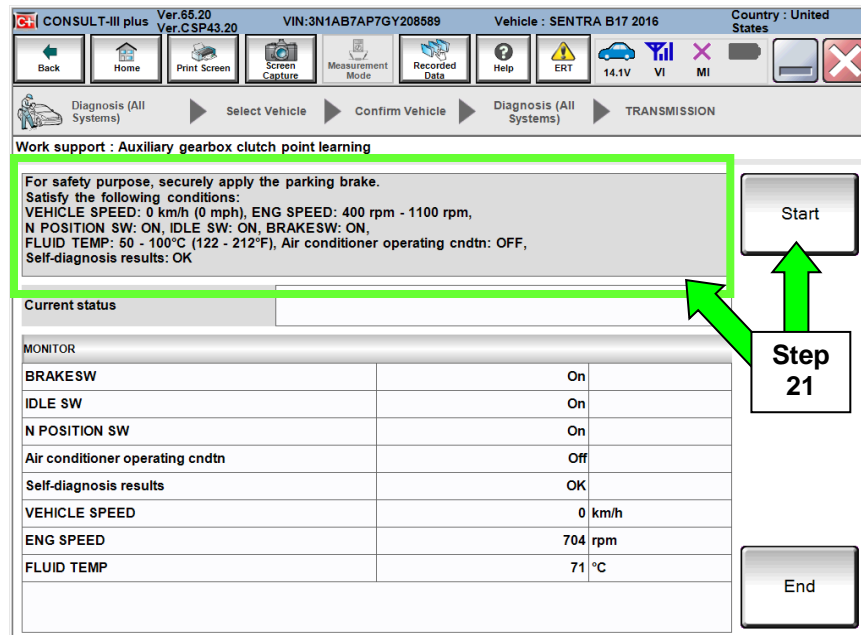

Figure 13
21. Follow the on screen instructions to meet all parameters displayed in Figure 13 and then select **Start**.